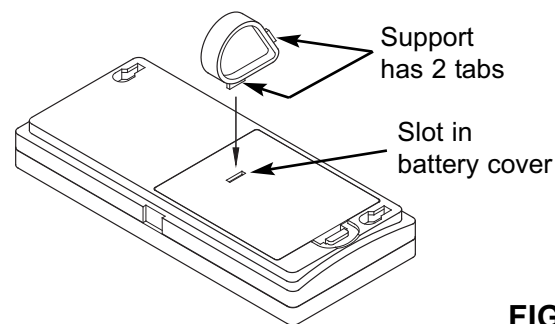

FIG. 93
1. Snap one of the support's two tabs into the rectangular slot on the back of the remote's case (See Figure 93).